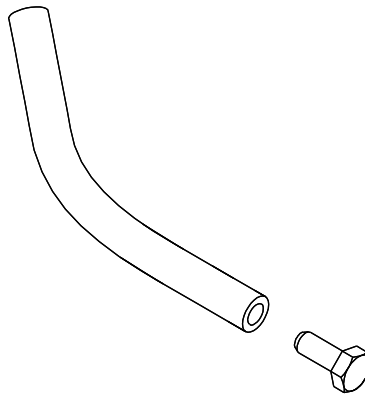

Figure 4.26 – Flow Stopper for Servicing (2 required)
6. Insert the 2 clamps per Figure 4.26 on the 3/4-inch (19-mm) silicon hoses to isolate flow between the vertical manifolds and the horizontal manifolds of the converter modules.